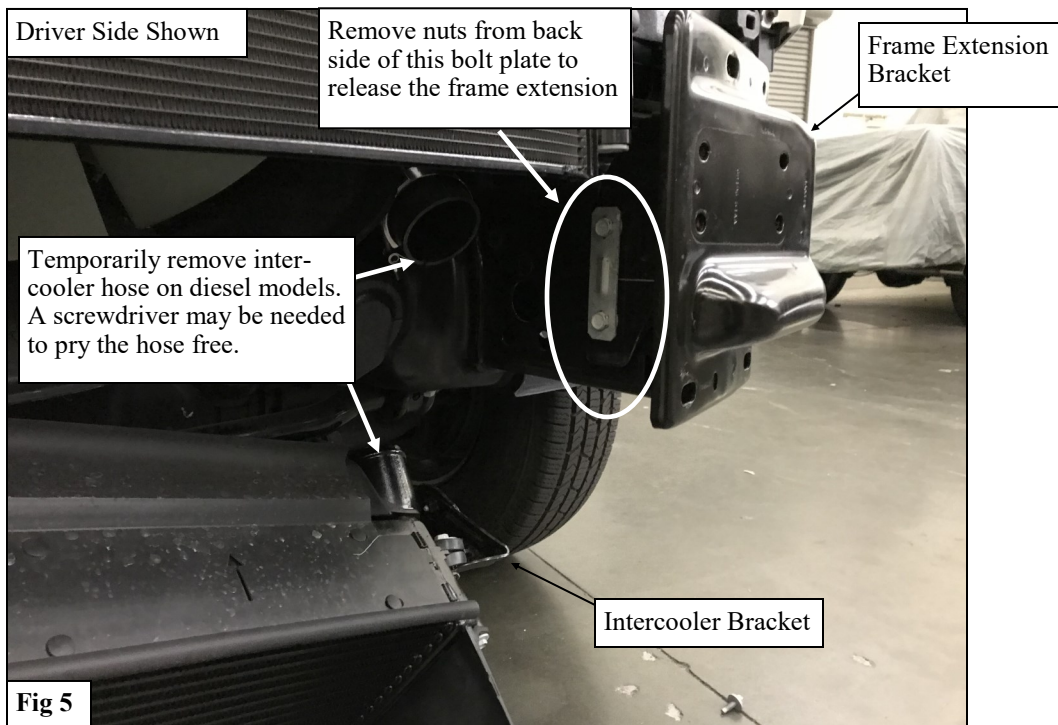

Fig 5
6. With assistance, remove the bumper assembly. Next, remove the (2) tow hooks. *Note: Tow hooks may not be re-used.*
7. Remove the driver side inner bumper bracket and lower frame extension brackets from the ends of the frame. See **Figure 5**. **NOTE:** Lower frame extension brackets cannot be reinstalled. **IMPORTANT:** On models equipped with a diesel engine, the intercooler will need to be moved out of the way to remove the frame extension bracket. This is done by loosening the hose clamps & unbolting the intercooler brackets from the frame. Assistance is highly recommended to avoid damaging the intercooler.